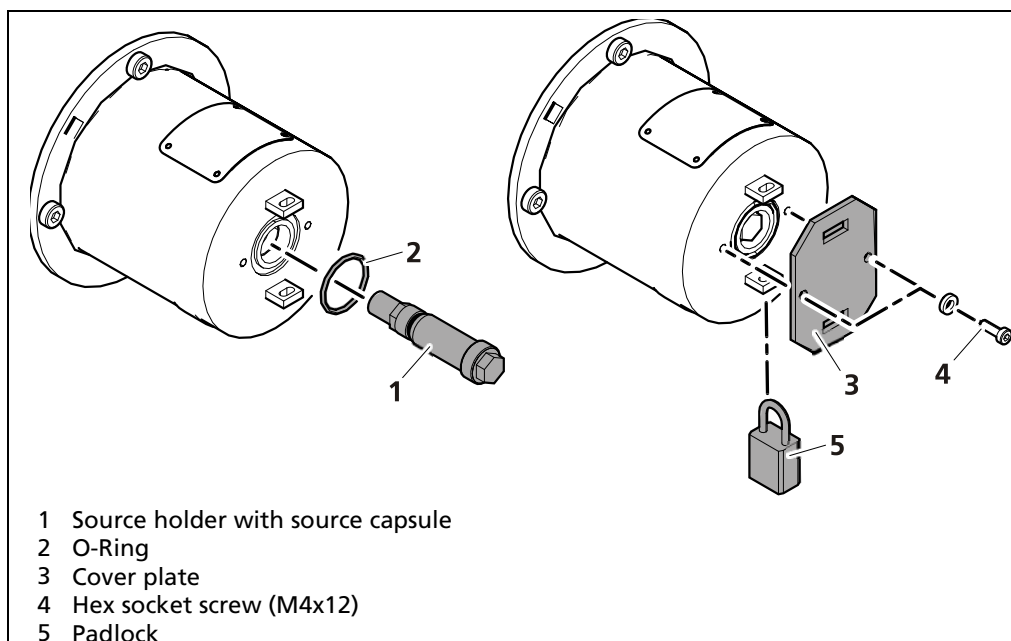

Fig. 10 Installing the source
1. Prepare the shield (Fig. 10) for the source and open the transport shield.
3. Insert the source (Fig. 10, item 1) into the shield as quickly as possible.
5. Check and replace O-ring (Fig. 10, item 2) if necessary.
7. Attach the cover plate (Fig. 10, item 3).
8. Screw the cover plate with 2 hexagon socket head screws and locking washers (Fig. 10, item 4).
9. Attach the padlock (Fig. 10, item 5).